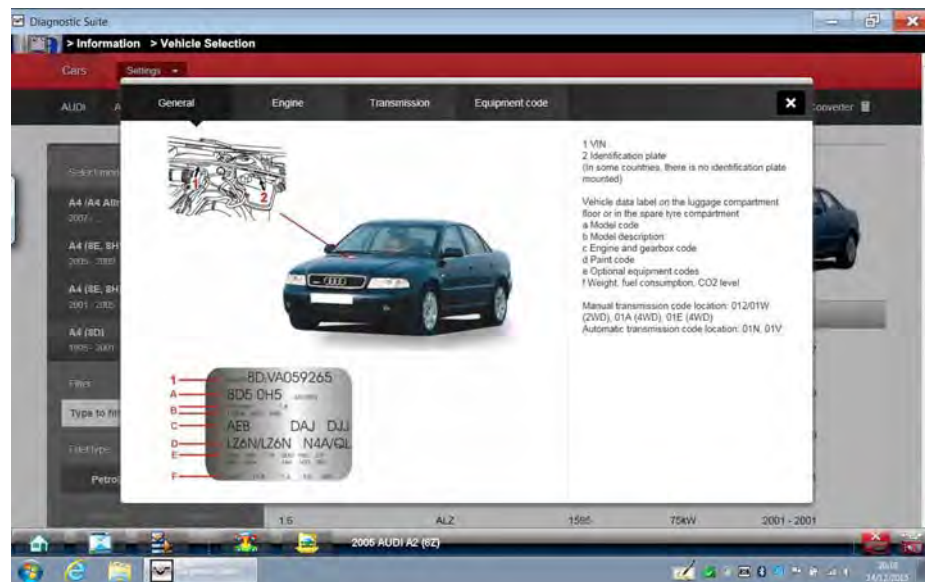

Figure 9-9 Show ID Location (result example)
4. If needed, select the **Show ID Location** icon, to access visual help information to find the location of vehicle identification numbers (Figure 9-9).